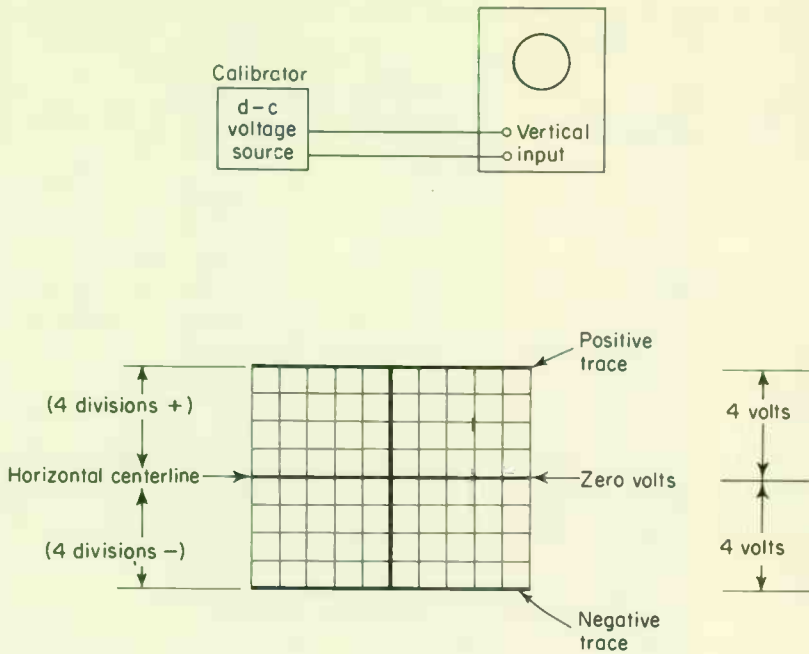

Fig. 6-4. Voltage calibration with external d-c.
1. Connect the equipment as shown in Fig. 6-4.
5. Without touching the vertical position control, set the vertical gain control to move the dot or line trace vertically up to the desired number of screen divisions. For example, assuming a calibrating voltage of 4 volts and a scale as shown in Fig. 6-4, set the vertical gain control so that the trace is moved up to the top line, or four divisions from the center line. Thus, each division will equal 1 volt. In the example shown in Fig. 6-4, this would give the oscilloscope a vertical deflection factor of 1 volt/cm, with the step-attenuator set